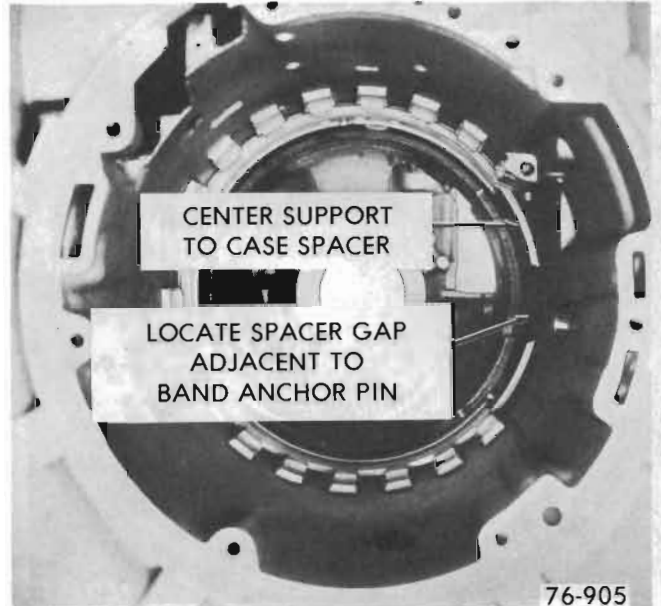

Figure 76-246
**CAUTION:** *If the case assembly requires replacement, make sure the center support-to-case spacer is removed from the old case and reinstalled in the new case. See Figure 76-246.*
6. Install the support to case spacer against the shoulder at the bottom of case splines and the gap located adjacent to the band anchor pin. See Figure 76-246.